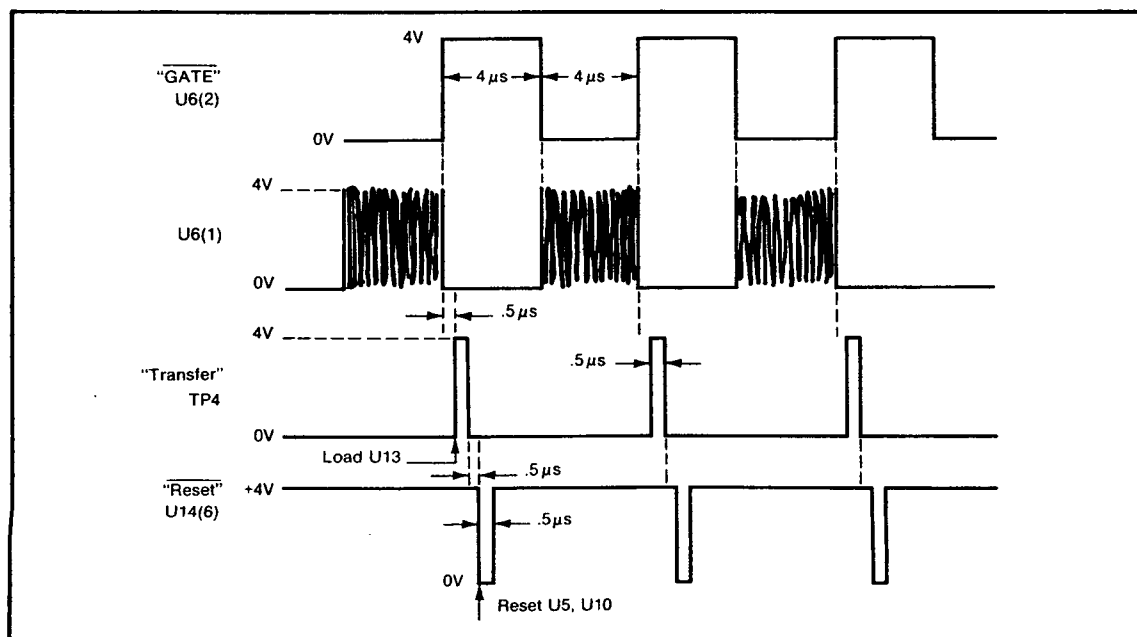

Figure 8-13. Filter Timing on A12 IF Detector
8-211. The IF signal output is prescaled by 4 in U3A ($\div 2$) and U3B ($\div 2$). The ECL output of U3(15) is translated to TTL levels by transistor Q1. This signal is then counted for 4 microseconds. The NOR gate U6 is enabled for a period of 4 microseconds by U6(2) going low for 4 microseconds. This 4-microsecond gate is generated by divider U15 which divides a 1 MHz input by 8. The input is from the A18 Time Base Buffer. During the 4-microseconds gate time, the count is totalized by binary counters U5 and U10. The contents of the counters are decoded by U8, U9 such that if the IF frequency is in the range of 48 MHz to 102 MHz (the U5 and U10 counters count 48 to 102 counts during the 4-microsecond gate), U6(13) [TP5] will be high. If the IF is in the range of 22 MHz to 128 MHz, U6(10) [TP6] will be high. Dual flip-flop U13 is loaded with this qualifier information every 8 microseconds by a clock signal from U11(12) [TP4]. After a 1-microsecond delay, the U5, U10 counters are reset by a low level from U14(6). *Figure 8-13* shows the timing for the filter.